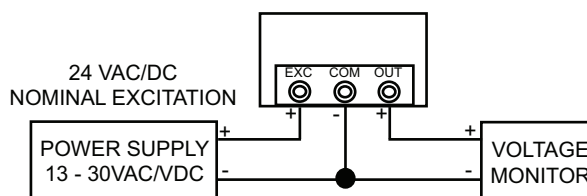

Fig. 34 — Three-Wire, 0-5, 0-10 Vdc Configuration
- a. Connect the com wire to controller ground near UI-6 (Supply Pressure) or ground near UI-5 (Exhaust Pressure). See Fig. 34.